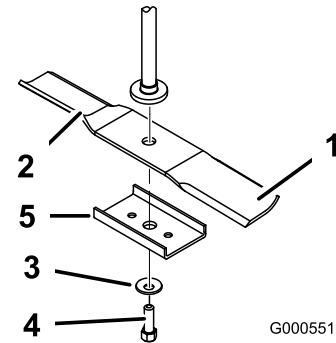

Figure 35
Hold the blade end using a rag or thickly-padded glove. Remove the blade bolt, curved washer, blade stiffener, and blade from the spindle shaft (Figure 35).
1. Install the blade onto the spindle shaft (Figure 35).
2. Install the blade stiffener, the curved washer (cupped side toward the blade) and the blade bolt (Figure 35).